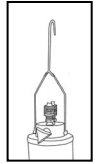

Fig 1.
1. Attach the enclosed bracket to Recycle Guard using the two provided screws (Recycle Guard **MUST** be mounted or used **VERTICALLY**) (See Fig 1.)